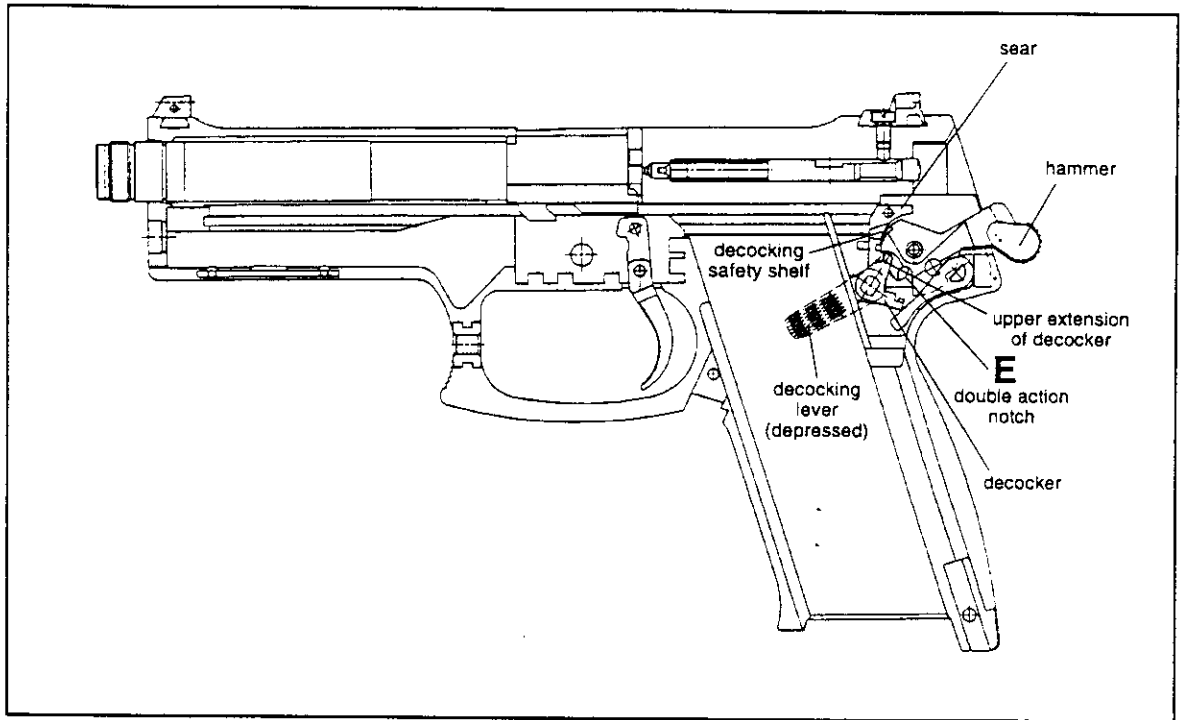

Figure 24
**Safety lever is disengaged (down). Pistol is set on "fire". The hammer is back (cocked) (Figure 24).**